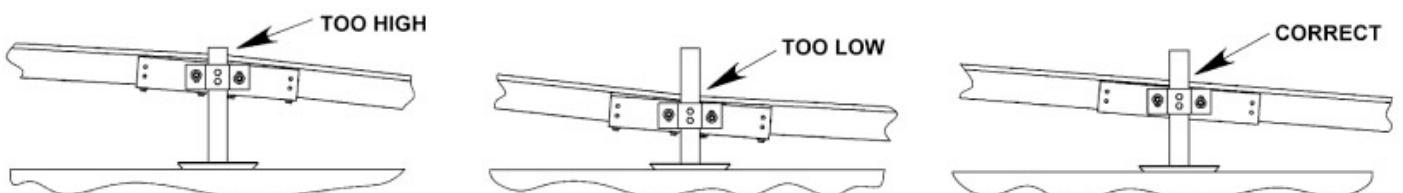

FIG. 19
- 4.2 Beginning at the upper end of the ramp system, insert a support leg into the leg support bracket (FIG. 19) and position the foot pad on the leg so it extends beneath the ramp.
- 4.11 Have a helper sit down the top edge of the ramp side rail and adjust ramp height until top edge of ramp side rail is straight, then tighten adjusting bolt to maintain this level. **Note:** It is important that the support legs are adjusted correctly so the ramp sections are aligned in a straight fashion, neither bowing down or up (see FIG. 19 for correct positioning). Failure to adjust properly will result in difficulty attaching the ramp guards and handrails later.